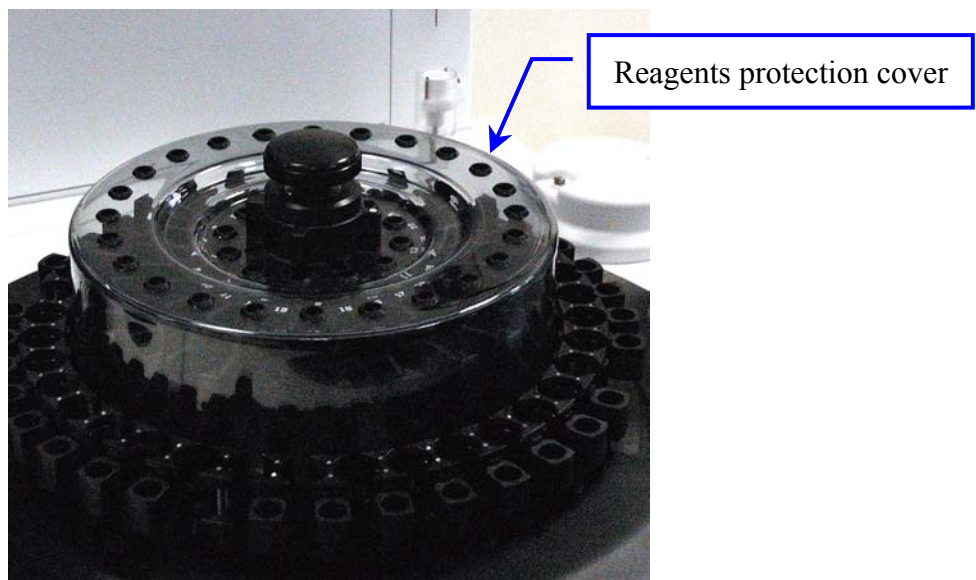

Fig.6 – Reagents protection cover on the Reagents Plate
15. Make sure that the Reagents protection cover is permanently locked on the Reagents Plate (Fig. 6).